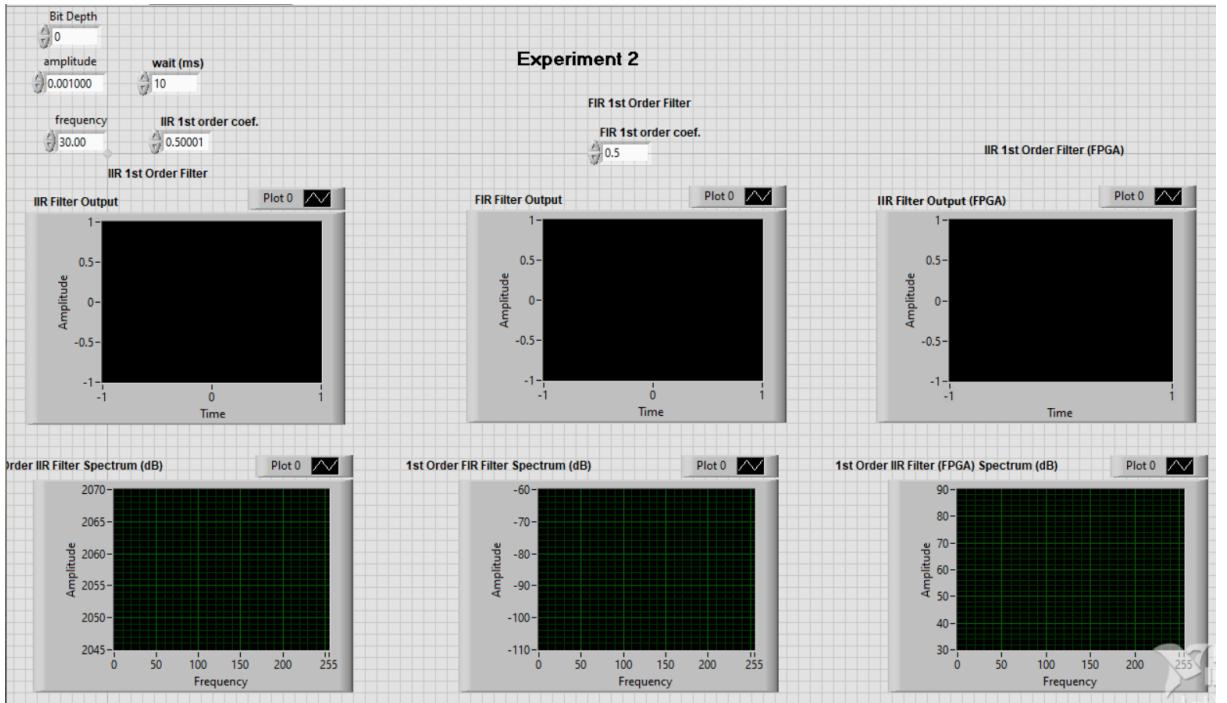

Fig.8. Front panel for the Experiment 2.
- Your front panel must look like Fig. 8.